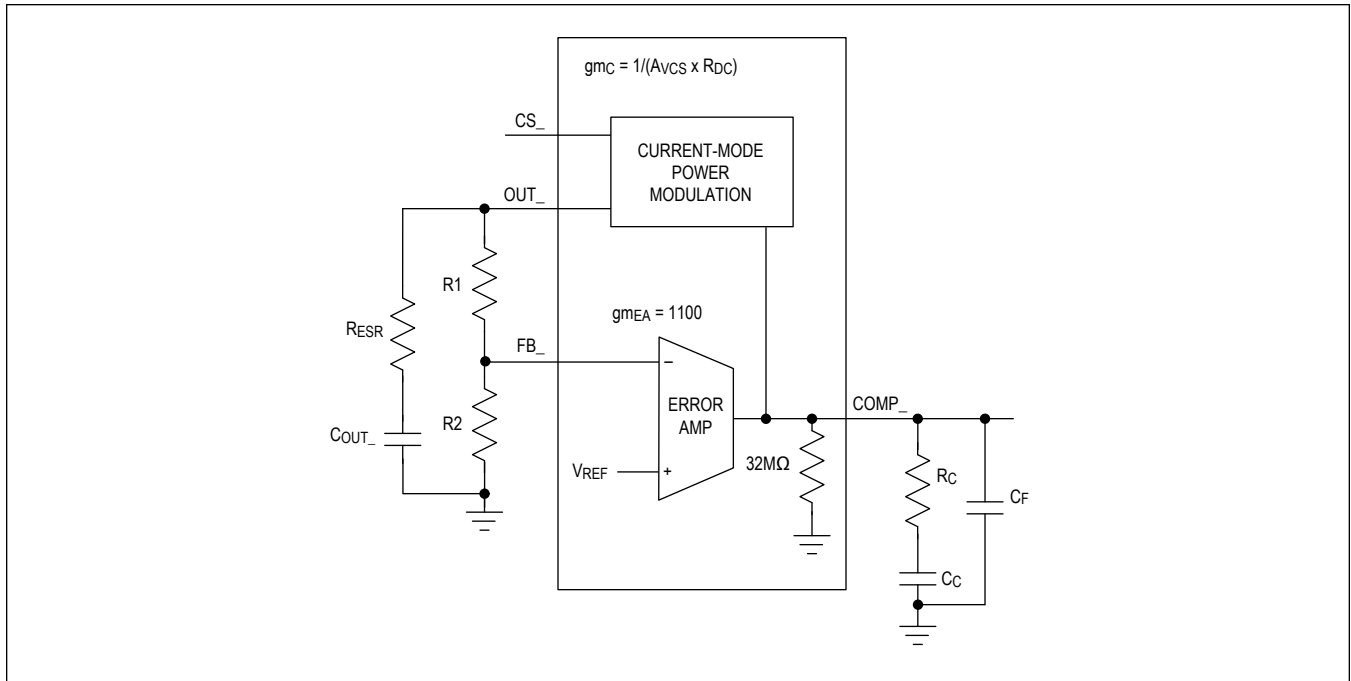

Figure 2. Compensation Network
The ICs use a current-mode-control scheme for boost controller. A single series resistor (RC) and capacitor (CC) is all that is required to have a stable, high-bandwidth loop in applications where ceramic capacitors are used for output filtering (see Figure 2). For other types of capacitors, due to the higher capacitance and ESR, the frequency of the zero created by the capacitance and ESR is lower than the desired closed-loop crossover frequency. To stabilize a nonceramic output capacitor loop, add another compensation capacitor (CF) from COMP to AGND to cancel this ESR zero.
The basic regulator loop is modeled as a power modulator, output feedback-divider, and an error amplifier, as shown in Figure 2. The power modulator has a DC gain set by gmC × RLOAD, with a pole and zero pair set by RLOAD, the output capacitor (COUT\_), and its ESR. The loop response is set by the following equations: